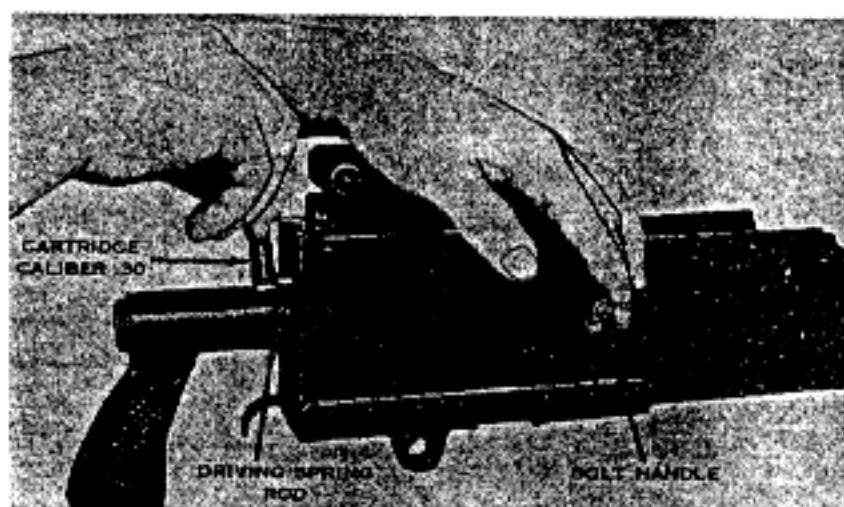

Figure 12. Seating the driving spring rod.
- (1) Pull back on the cover latch and raise the cover. With the left hand, pull back on the bolt handle and hold it in its rearmost position.
- (2) With the right hand, insert the rim of a cartridge or the screwdriver end of the combination wrench in the slit in the end of the driving spring rod. With the slit horizontal, push in on the driving spring rod as far as it will go and turn it clockwise one-quarter turn until the slit is vertical (fig. 12).